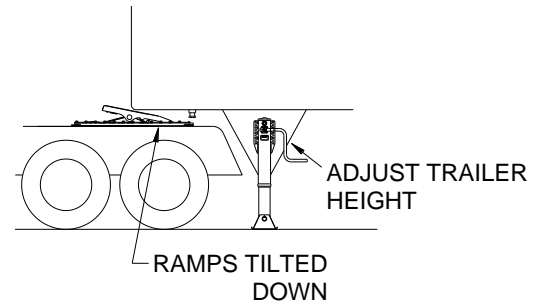

FIGURE 1
1. The ramps must be tilted down (see figure 1).
IMPORTANT! The trailer should contact the fifth wheel at the pivot (see figure 1). When coupling, fifth wheel must slide freely under the trailer. Do not lift the trailer with the fifth wheel, this could result in damage or personal injury!